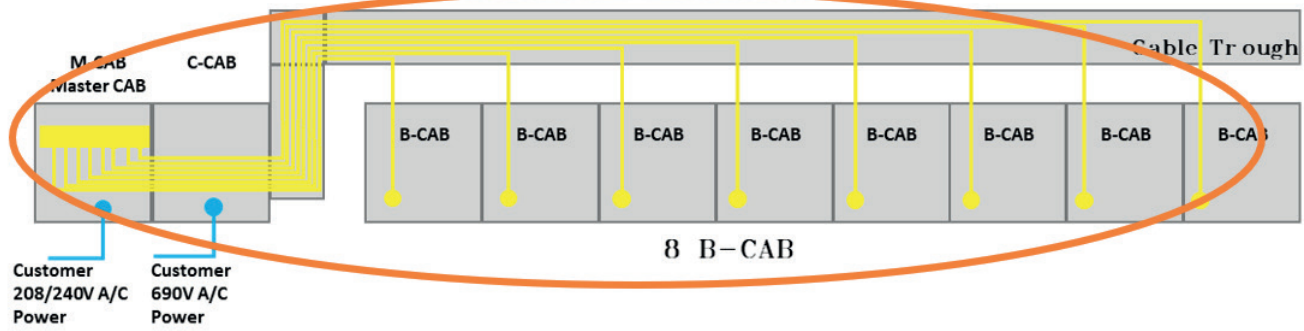

Figure 97. B-Cab XXL Auxiliary AC Power Connections
- a. The Auxiliary Power cable has no connector on one of the cable harness and a connector as in Figure 97 on the other end. See Figure 101, for a schematic representation.